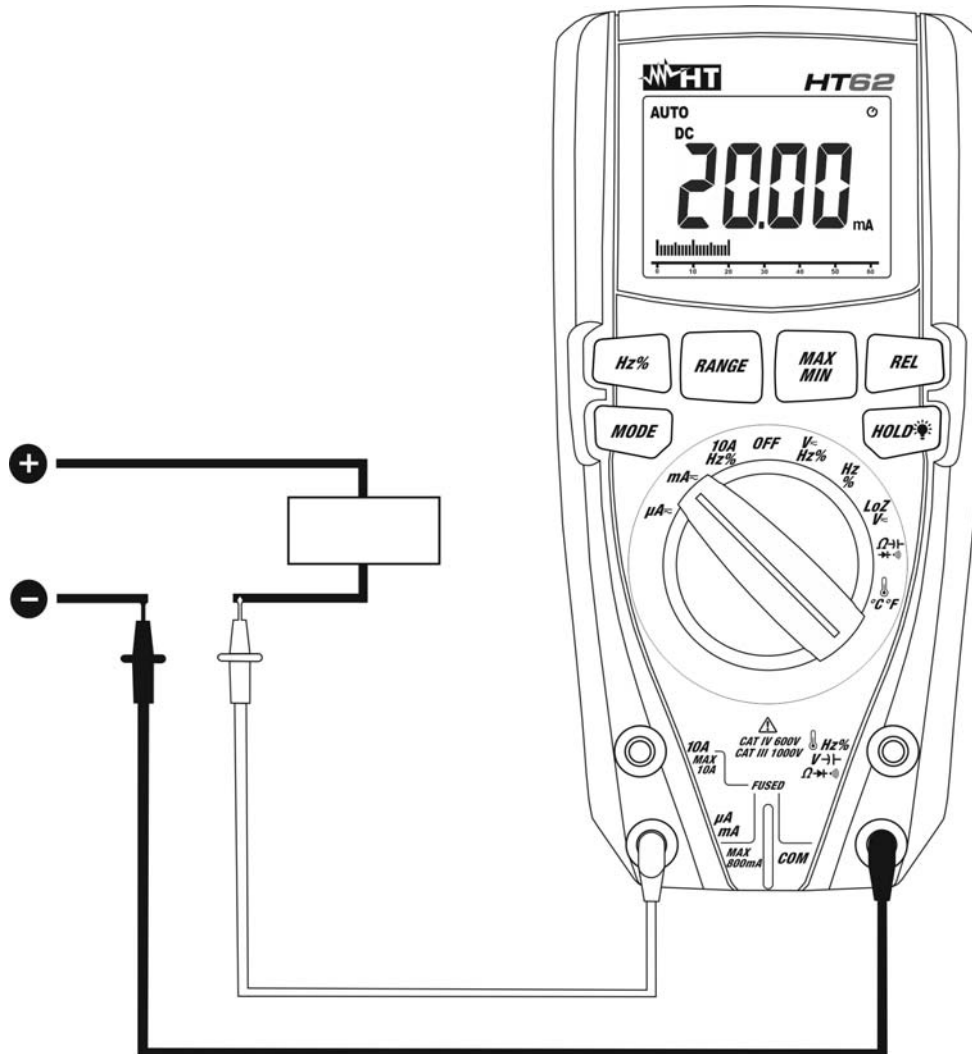

Fig. 10: Use of the instrument for DC current measurement
4. Connect the red lead and the black lead in series to the circuit whose current you want to measure, respecting polarity and current direction (see Fig. 10).
7. When symbol "-" appears on the instrument's display, it means that current has the opposite direction with respect to the connection in Fig. 10.